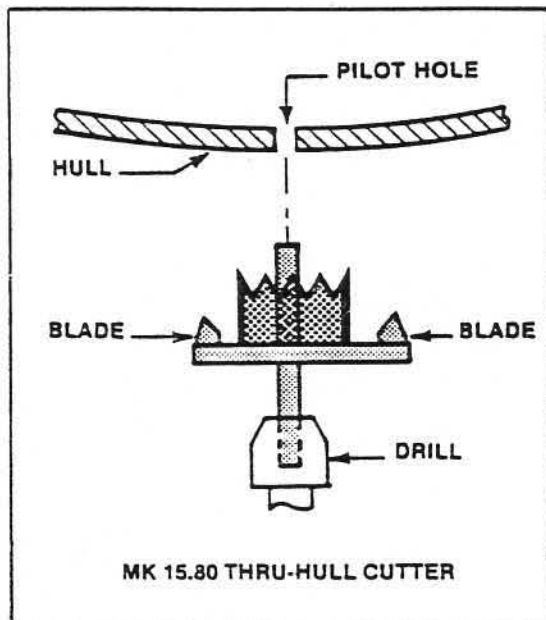

Figure 3.2
4. a) If a MK 15.80 thru-hull cutter is used, it will cut the 1-5/8" hole and countersink the bore in one step. Drill the hole for the fitting using the 3/8" pilot hole as a center guide (see Figure 3.2).